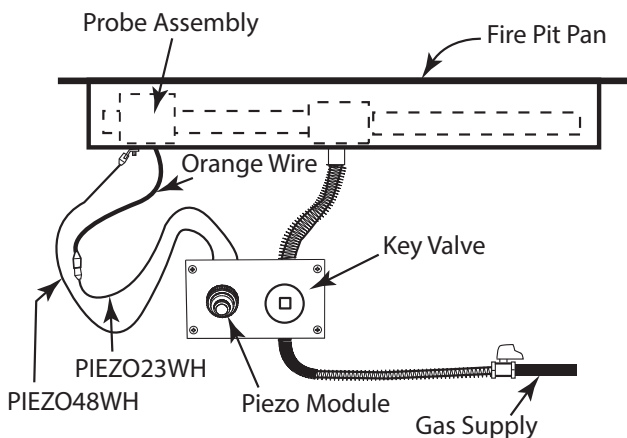

Fig. 20 Wiring diagram PAVER-CP-MT-MSI.
Step 8: Attach the 1/4" end of extension wire (PIEZO23WH) to the orange ignitor wire and attach the 1/4" wire end (PIEZO48WH) wire to ground tab under the burner pan. See Fig. 20.